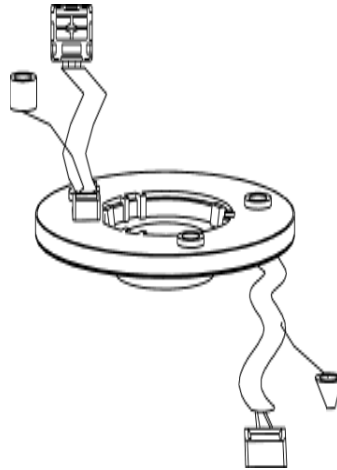

Figure8-5
b. Clock spring test (figure 8.5,figure 8.6)
- Figure 8 — 5 As showed in Figure 8.5,Plug a thin probe into the current tester to check the connection of the terminal.